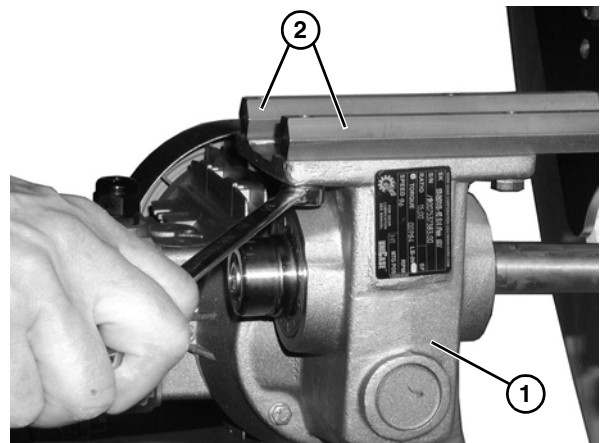

Figure 58
- Remove the gearmotor assembly (**Figure 58, item 1**) from the gearhead mounting posts (**Figure 58, item 2**).